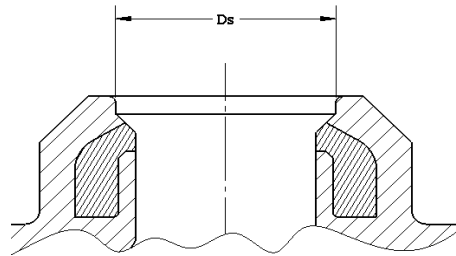

Figure 23: Critical Seat Dimension
2. Referring to Figure 23, measure the diameter, D_s , of the nozzle. This diameter must be in the range of values listed in Table 3.